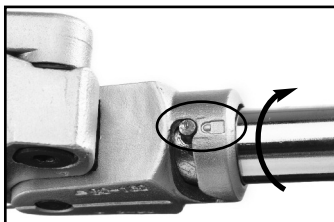

Figure 14 – LOCK
- Turn the Carriage Handle so that the pin moves toward the "lock" position. Make sure the Handle is secure to the Carriage. (Figure 14).